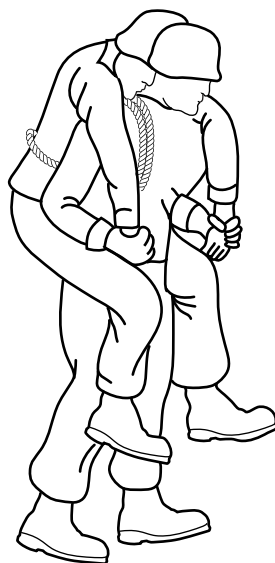

Figure 8-3. Rope Coil Carry.
- Holding the casualty's wrists, the bearer carefully stands, using their legs to lift up and keeping their back as straight as possible (see Figure 8-3).